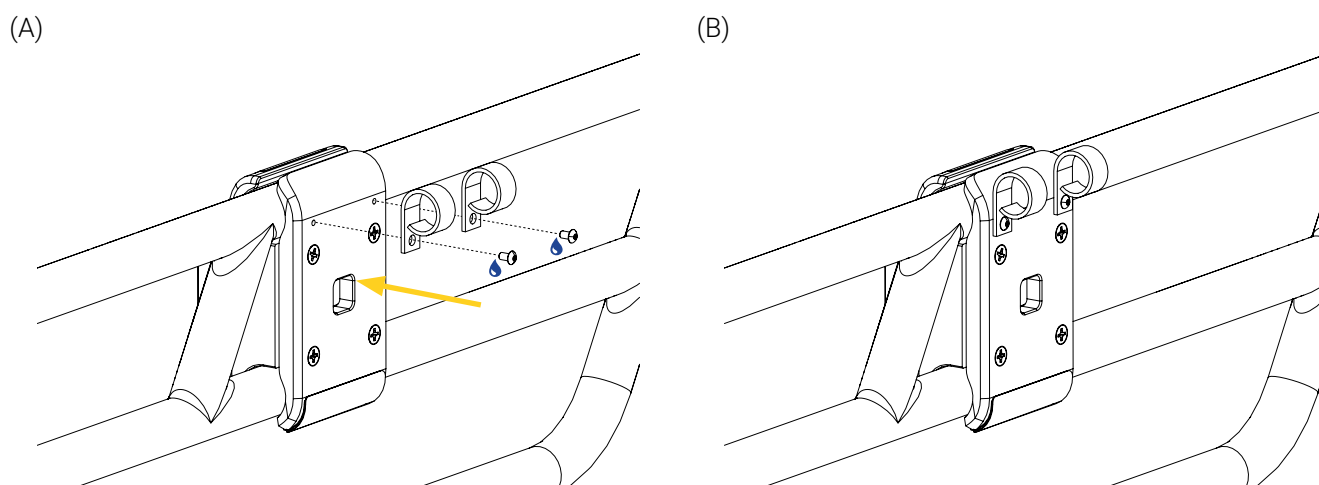

Figure 94: Installing the new cable management hooks
4. Install the two (2) new hooks on the clamp block using the two (2) 6-32 X $\frac{1}{4}$ in. pan head hex screws coated with medium strength thread lock adhesive (🔵) and a $\frac{5}{64}$ in. hex key (Figure 94).